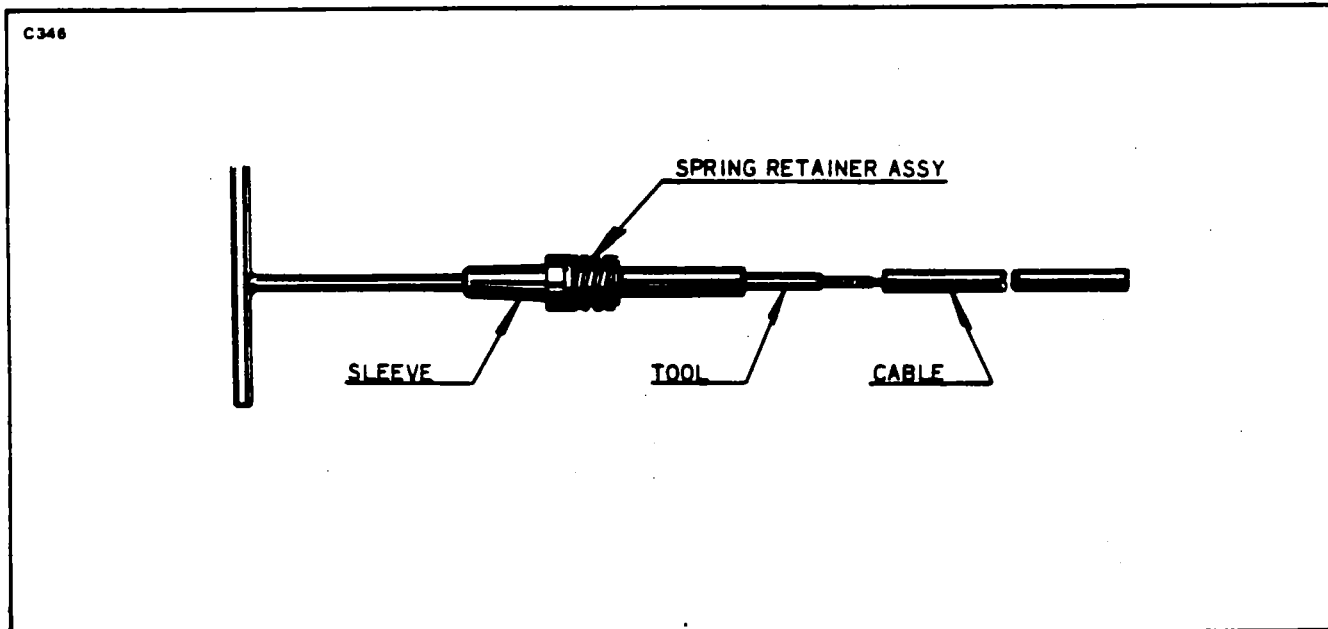

Figure 74-25. Using Assembly Tool
- C. Push the fabricated tool through insulating sleeve and spring retainer assembly as shown in Figure 74-25. Screw the cable terminal into the tool.